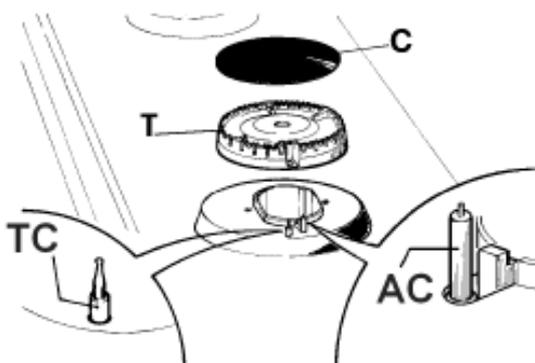

FIG. 6
Periodically wash the hot plate, the enamelled steel pan support, the enamelled burner caps "A", "B" and "C" and the burner heads "T" (see fig. 6 and 7) with lukewarm soapy water. They should also be cleaned plugs "AC" and flame detection "TC" (see fig.6). Clean them gently with a small nylon brush as shown (see fig. 7/A) and allow to dry fully. Do not wash in the dishwasher. It is very important to clean the surface soon after every use, when the glass is still tepid.
- check that the holes in the burner heads "T" (fig. 6) are not blocked by foreign bodies.
- Ensure that the enamelled covers "A", "B" and "C" (fig. 6 and 7) are correctly positioned on the burner head. The covers are correctly positioned on the head when they are perfectly stable.